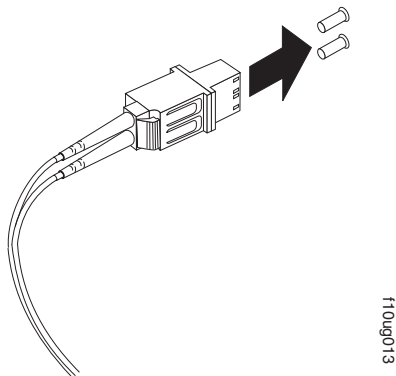

Figure 38. Removing the LC-SC cable adapter protective caps
3. Remove the two protective caps from the LC connector end of the LC-SC cable adapter as shown in Figure 38. Save the protective caps for future use.